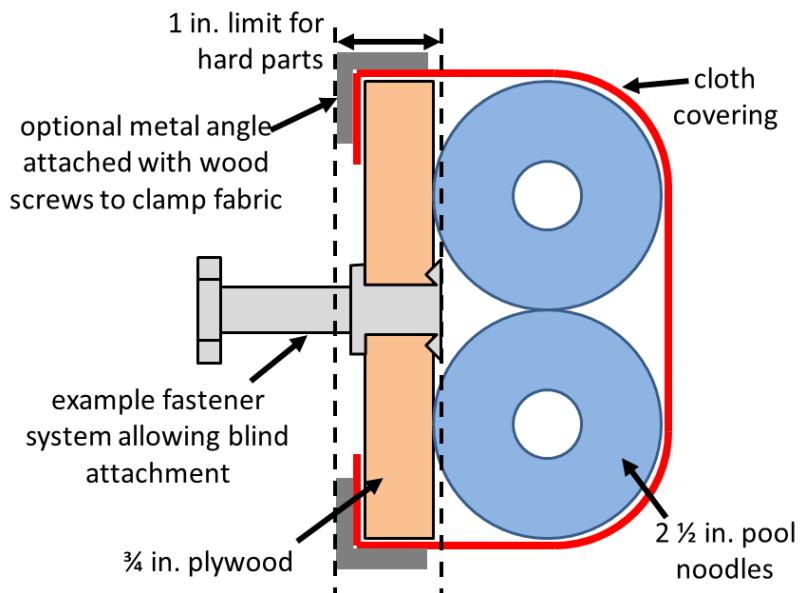
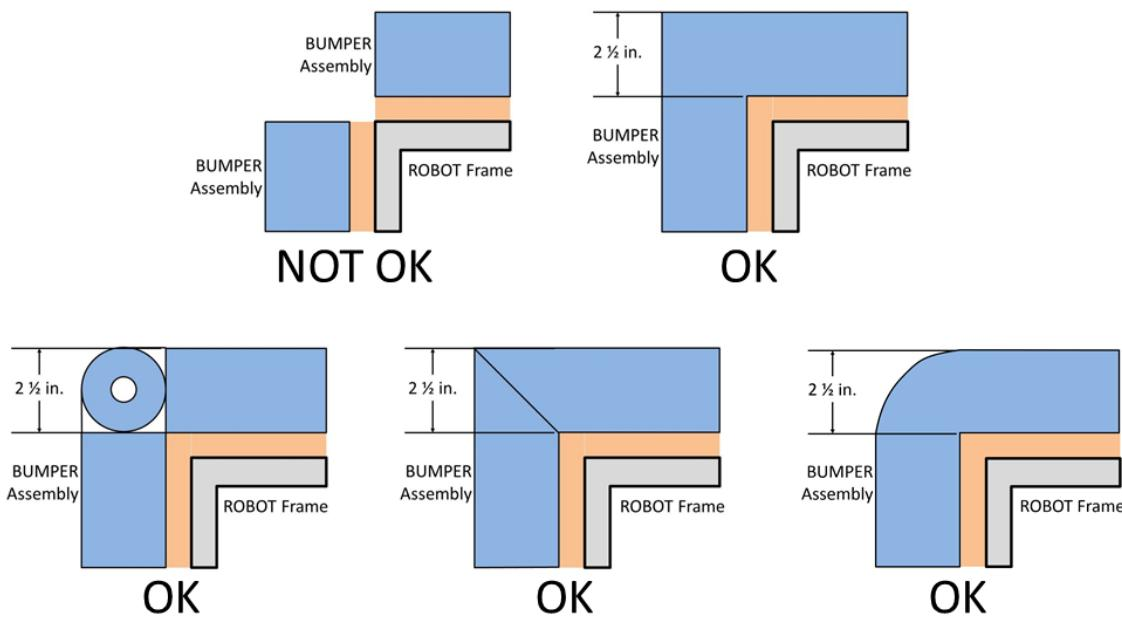

Figure 10-6 BUMPER Vertical Cross Section
Figure 10-7 Soft Parts of BUMPER Corners
- R31.** BUMPERS must be constructed as follows (see Figure 10-6):
- C. use a stacked pair of approximately $2\frac{1}{2}$ in. (nominal) round, petal, or hex “pool noodles” (solid or hollow) as the BUMPER cushion material (see Figure 10-6). All pool noodles used in a BUMPER set (e.g. Red set of BUMPERS) may not be modified (with the exception of cutting to length or beveling ends) or deformed and must be the same diameter, cross-section, and density (e.g. all round hollow or all hex solid). Cushion material may extend up to $2\frac{1}{2}$ in. (~63 mm) beyond the end of the plywood (see Figure 10-7). To assist in applying the fabric covering, soft fasteners may be used to attach the pool noodles to the wood backing, so long as the cross section in Figure 10-6 is not significantly altered (e.g. tape compressing the pool noodles).
- D. be covered with a rugged, smooth cloth. (multiple layers of cloth and seams are permitted if needed to accommodate R28, provided the cross section in Figure 10-6 is not significantly altered).
- E. optionally use metal angle, as shown in Figure 10-6 or other fasteners (e.g. staples, screws, etc.) to clamp cloth.
R32. Corner joints between BUMPERS must be filled with pool noodle material. Examples of implementation are shown in Figure 10-7.